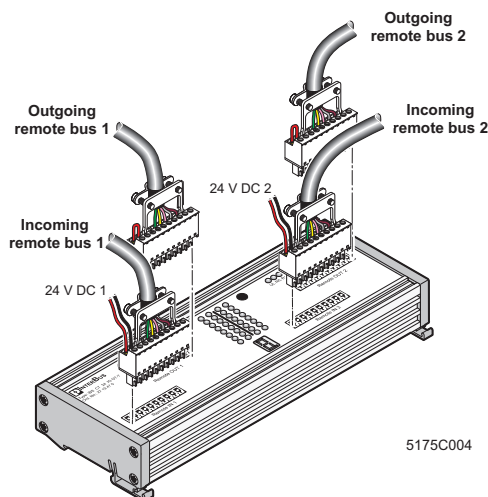

Figure 5 Positions of remote bus connectors
- Plug the connector into the corresponding terminal strips with the keying tabs facing downwards (Figure 5). Remote IN designates the incoming remote bus, remote OUT the outgoing remote bus. The supply voltage  $U_L$  for the module electronics must be supplied through terminals 1 ( $U_{L+}$ ) and 2 ( $U_{L-}$ ) of the REMOTE IN connector.